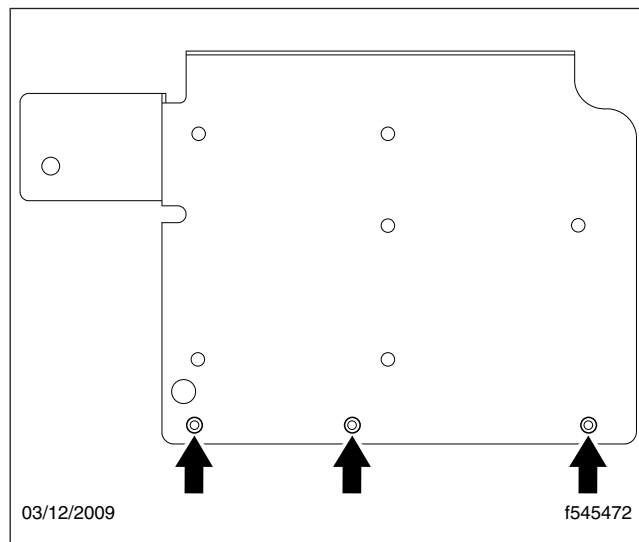

Fig. 6, Modifying the Electrical Mounting Bracket
12. For vehicles equipped with EPA07 engines, resize the three lower holes of the electrical mounting bracket to 1/4 inch (6.35 mm). This bracket shares fasteners with the battery drawer slides. See Fig. 6.